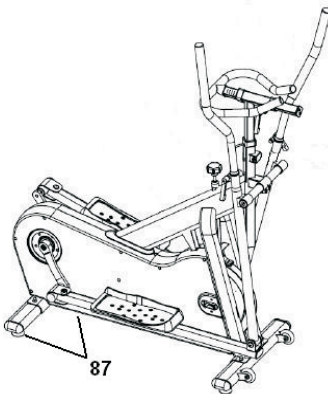

Figure 10
**LEVELING:** once the unit has been placed into its final position, make sure that it sits flat and level on the floor. This is possible by adjusting the feet (87) under the stabilizers in or out (fig 10)